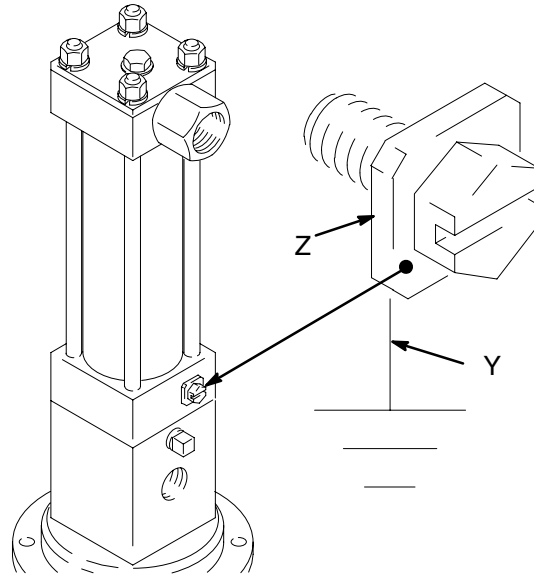

Fig. 3
- *Pump:* Use ground wire and clamp as shown in Fig. 3. To order a Grounding Wire and Clamp Kit, order Part No. 222011.
To ground the pump, remove the ground screw (Z) and insert through the eye of the ring terminal at end of ground wire (Y). Fasten the ground screw back onto the pump and tighten securely. Connect the other end of the ground wire to a true earth ground. See Fig. 3. *To order a ground wire and clamp, order Part No. 222011.*